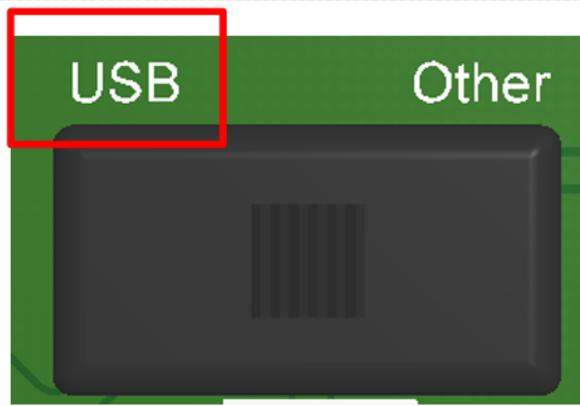

Figure 37. USB vs Other = 'USB'
- If you are going to power the programming board with USB, set the switch to “USB” as shown in Figure 37